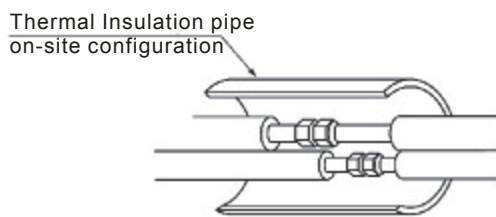

Fig. 5.4 Insulation on pipes
(4) Insulate the refrigerant pipes as shown in Fig. 5.4.